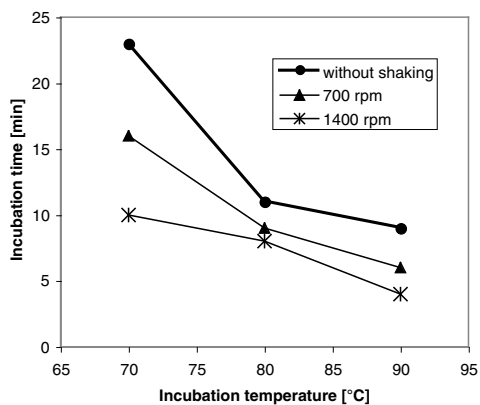

Figure 2 Removal of residual ethanol from the elution fraction by heat treatment.
- The incubation of the eluate at higher temperatures may be adjusted according to Figure 2. The incubation times and conditions shown will reduce an initial elution volume of 20 µL to about 12–14 µL and will effectively remove traces of ethanol as described above.